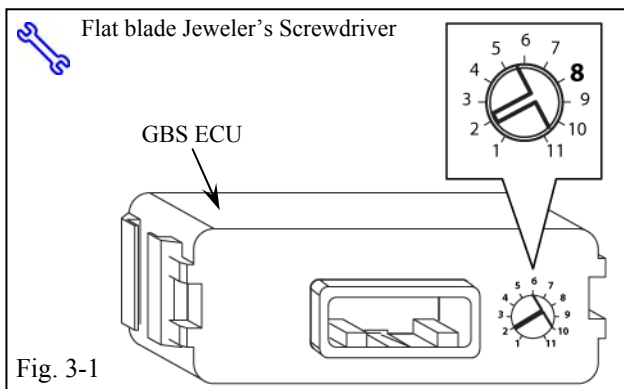

Fig. 3-1
- (a) Turn the sensitivity screw on the GBS ECU to the "8" position. (Fig. 3-1)
- (1) Verify the sensitivity.